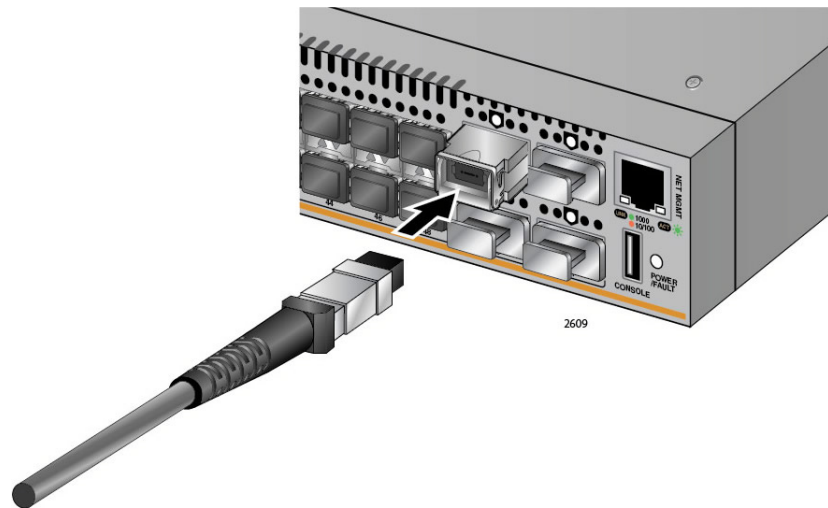

Figure 40. Attaching a Fiber Optic Cable to a QSFP+ Transceiver
7. Insert the fiber optic cable to the port on the transceiver, as shown in Figure 40, until it clicks in place.